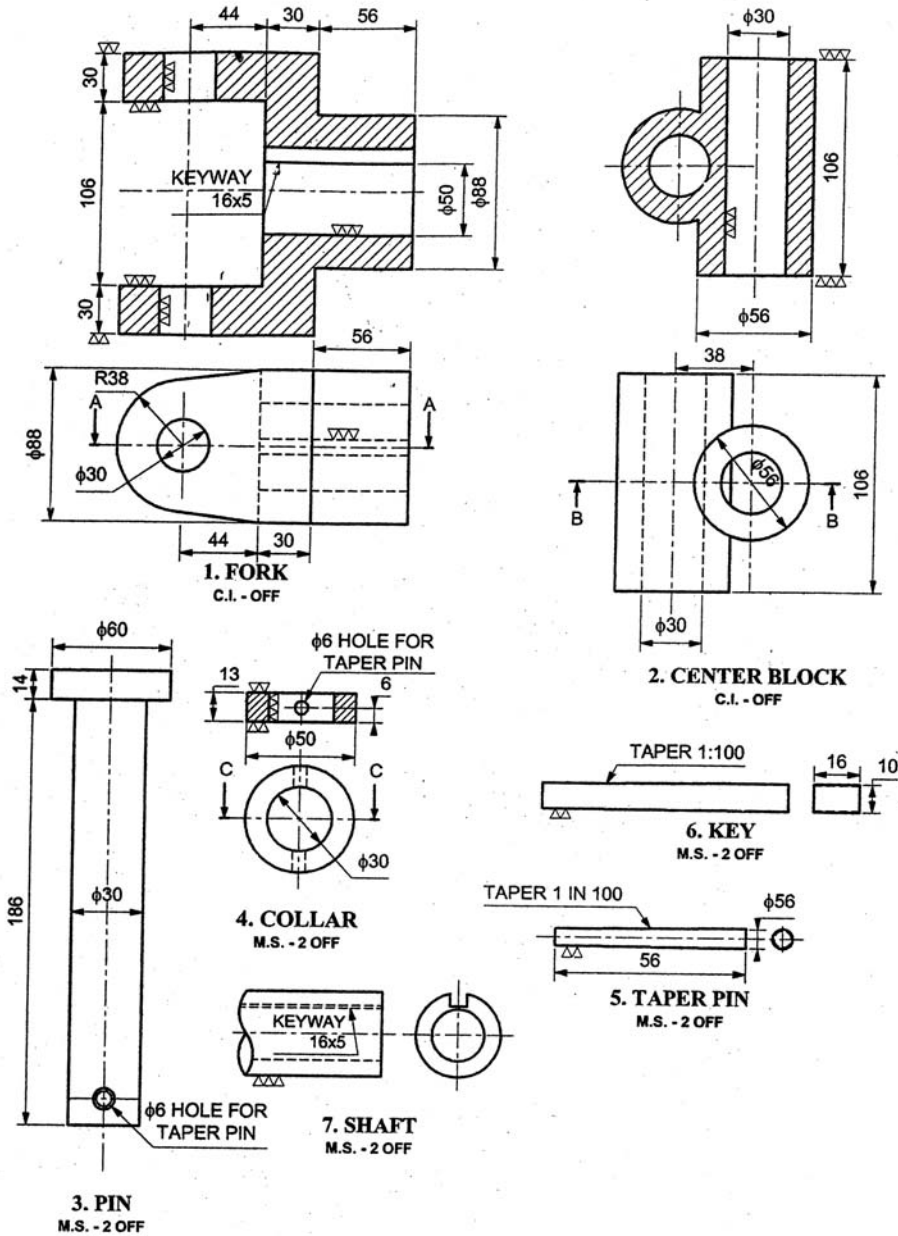

Fig. 4
b) Fig. 4 shows the details of universal coupling. Draw sectional F. V. and T. V. of an assembly prepare bill of material.